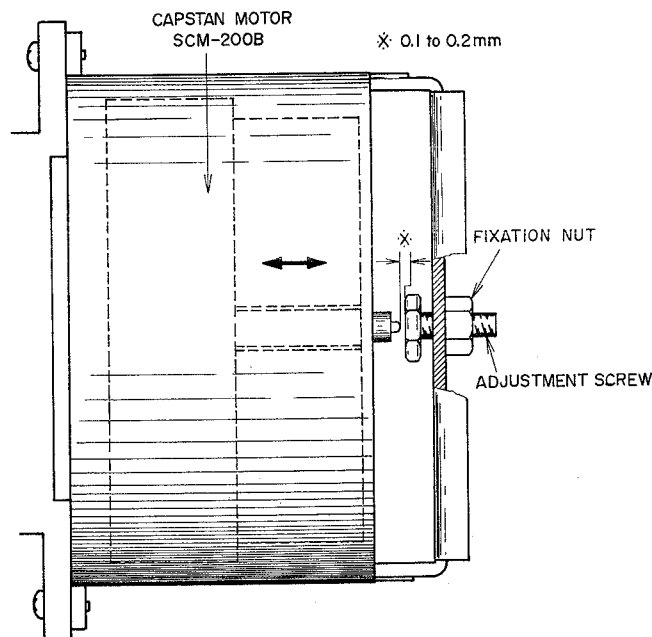

Fig. 13
4. CAPSTAN SHAFT LOOSE PLAY ADJUSTMENT (Refer to Fig. 13)